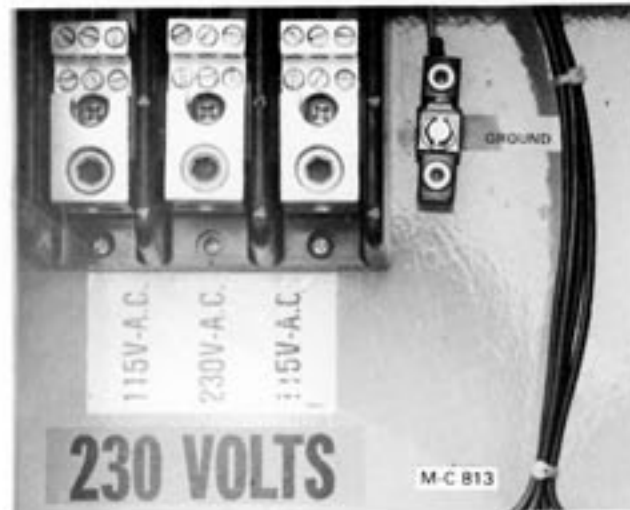

Figure 8
2. Connect the power supply to the lugs on the splitter block in the bottom control cabinet, see Figure 8.
**IMPORTANT:** The dryer controls operate on 115V. On 230V three phase models, the 230V power supply must be connected to the center lug of the splitter block as shown in Figure 8. If the 230V power source is connected to the 115V lug, the dryer controls will be seriously damaged.
4. Connect the power supply ground wire to the ground lug in the cabinet, see Figure 8. The dryer base **MUST** be grounded to a grounding rod. Select a location that will provide a good clean ground connection.